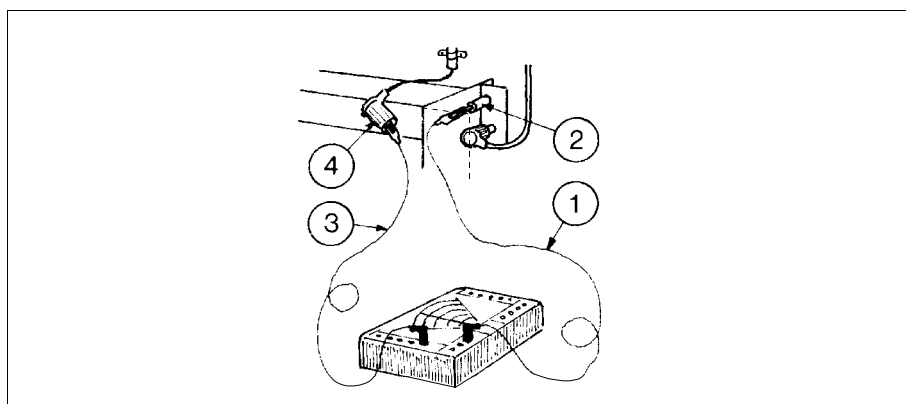

Fig. 27 Measuring ionisation
- e. Connect a μA -meter (0 - 50 μA) in series with the flame detection circuit. While measuring ionisation the main burner should stay switched off. To do this, disconnect the main gas valve by breaking the electrical connection by removing the plug. Connect the black wire (-) (1) of the μA -meter with the ionisation connector electrode (2) on the boiler (fig. 27). Connect the red wire (+) (3) of the μA -meter with the ionisation cap (4). The ionisation of the pilot burner must show a minimum of 5 μA over 10 seconds after which the burner falls into flame detection lockout. Wire the main gas valve back to its original condition. Repeat the test by starting the boiler and allowing to fire up to maximum operation. Check that the μA -meter reads at least 5 μA after 10 seconds.